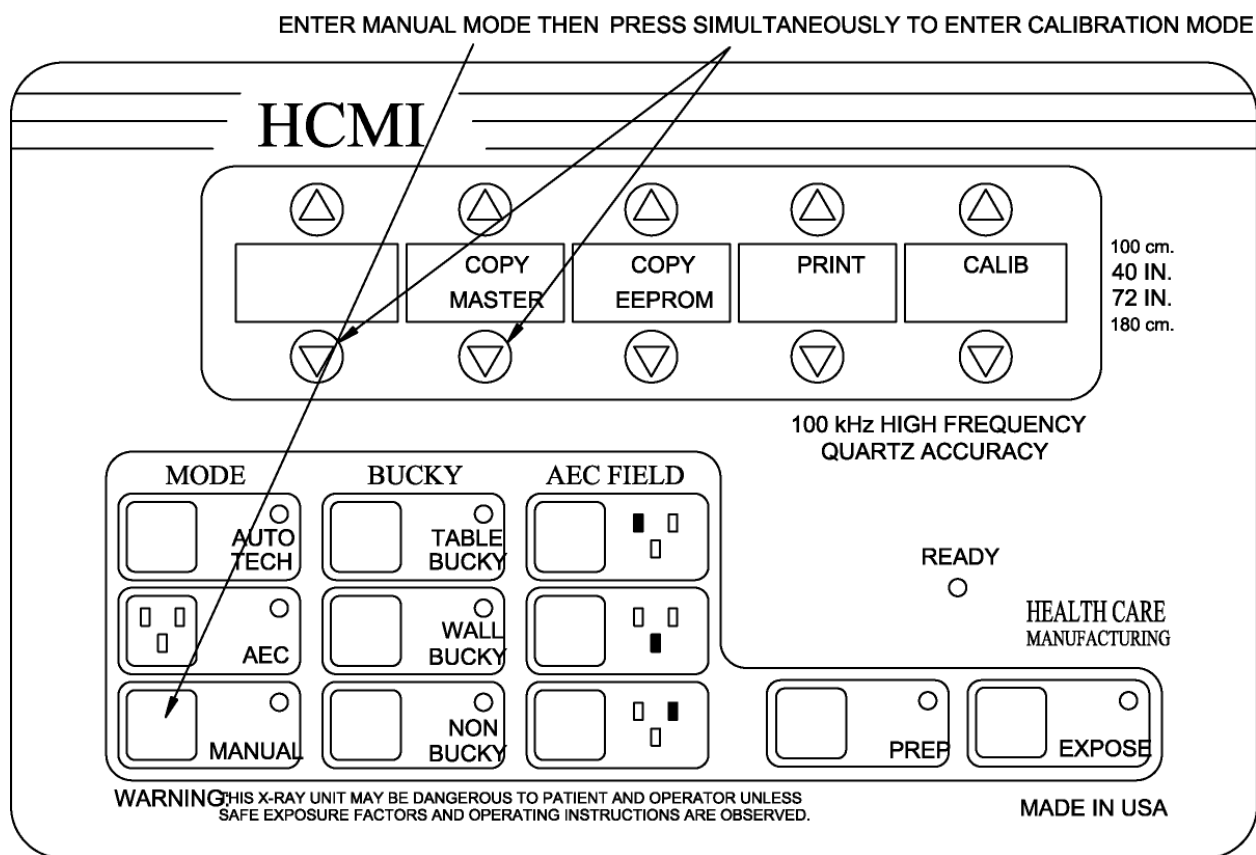

Figure 6-11 Utility/Maintenance Menu (Calibration Mode)
b. Press **MANUAL** key first to enter manual mode then press down arrows simultaneously under exposure counter and seconds. (Figure 6-11)
2. Access mA calibration mode as follows: (See figure 6-11)